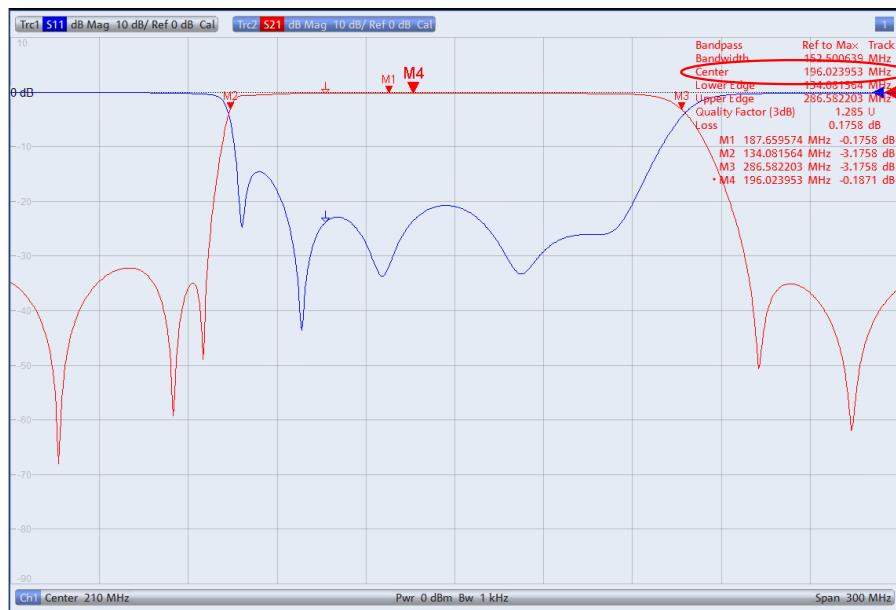

Fig. 2-32: Display of all relevant values for a bandpass.
- Bandwidth:* Enter 3 dB and then enable *Bandpass Ref to Max*. As shown in Fig. 2-32, all relevant values for the bandpass are displayed at the top right corner of the screen.
- By default, the geometric mean (marker M4) $f_0 = \sqrt{f_h \cdot f_L}$ ($f_L=M2$; $f_h=M3$) is displayed for the center frequency; in this case: $f_0=196.023953$ MHz (Fig. 2-32). To display the arithmetic mean: